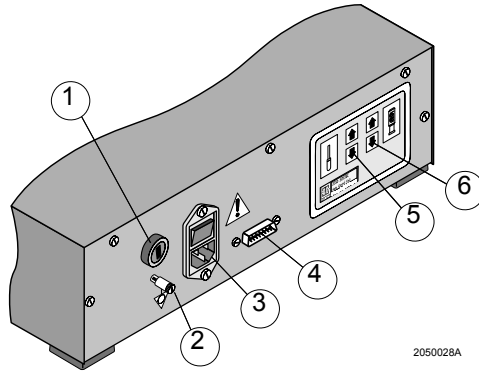

Fig. 2:4 Drive Unit (DU), front side.
3. Connect the **communication cable** (15 pin (D--sub) extension cable) from the CU (Fig. 2:3 pos. 6) to the DU (Fig. 2:4 pos. 4). Tighten the screws to ensure that the cable stays in position.